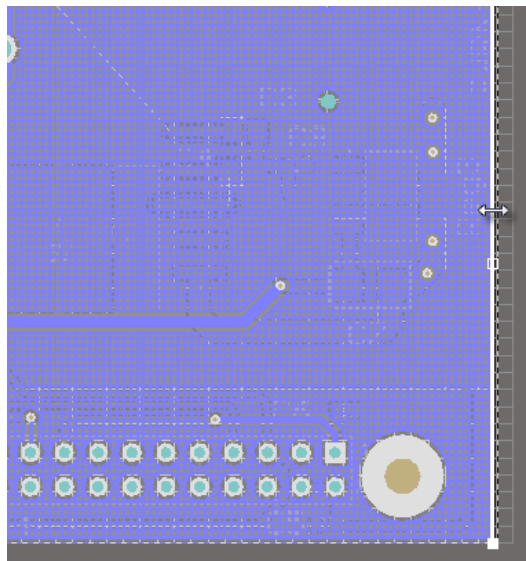

Figure 14. Hovering over the right edge of the polygon
46. Hover over the right vertical edge of the polygon. The edge will be highlighted by a thick white line and the cursor will turn into a 2-way arrow as shown in Figure 14.
47. Click and hold the left mouse button; the cursor will become a crosshair and the *HUD* will show that the *Sliding Edge* mode is active as shown in Figure 14.